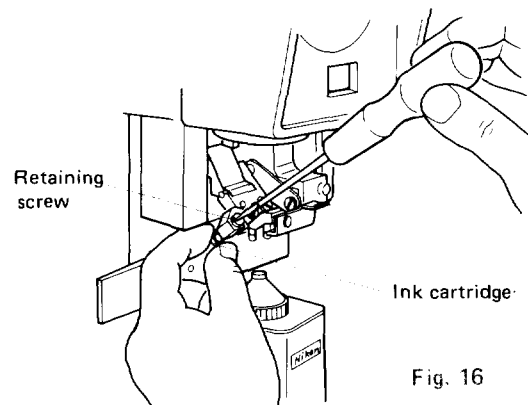

Fig. 16
- Exchange the cartridge when the marking nib damaged or the ink exhausted. (Fig. 16).